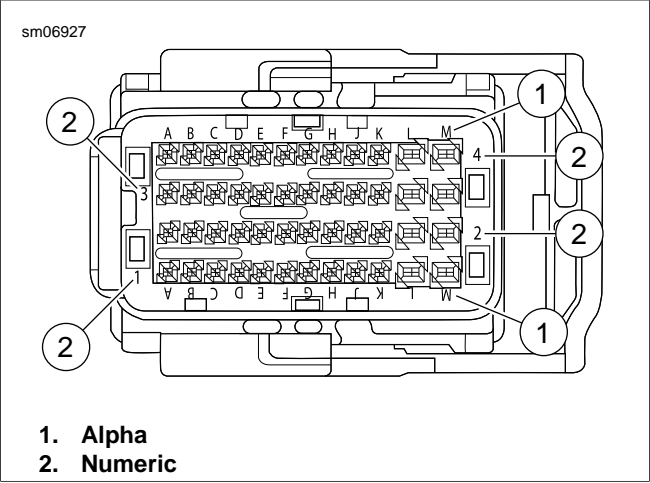

Figure A-44. Alpha-Numeric Coordinates
6. See Figure A-44. Locate the wire lead cavity by the alphanumeric coordinates.